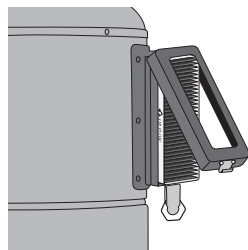

figure 21
1. Unlatch the opening on the carbon filter case and gently flip it upward (**figure 21**).